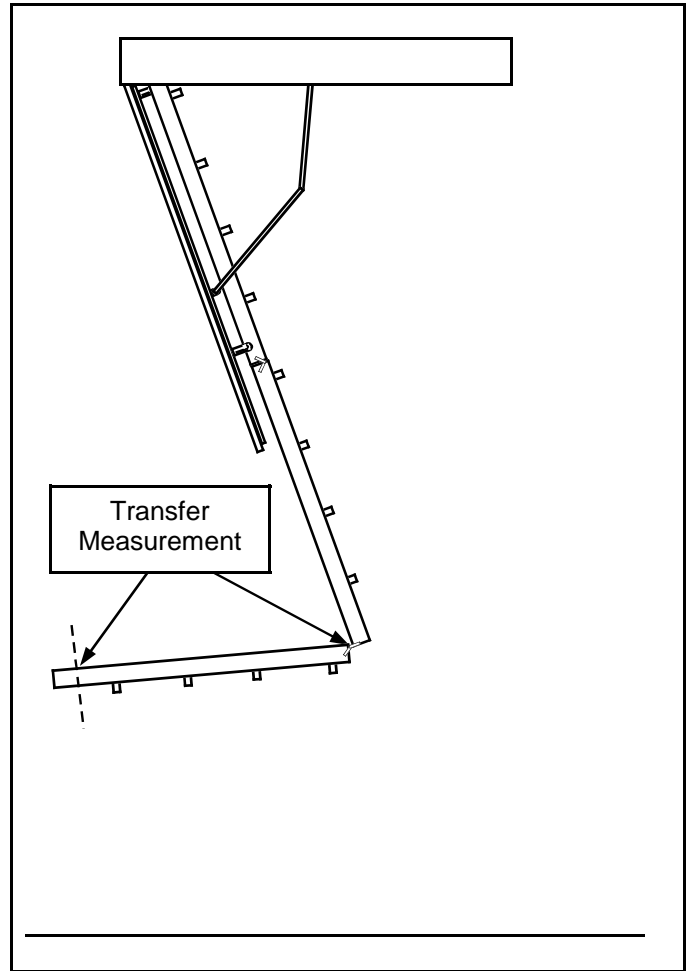

Figure 11
3. Slide rubber bumper off stair and transfer measurement to the back side of the section, Figure 11.